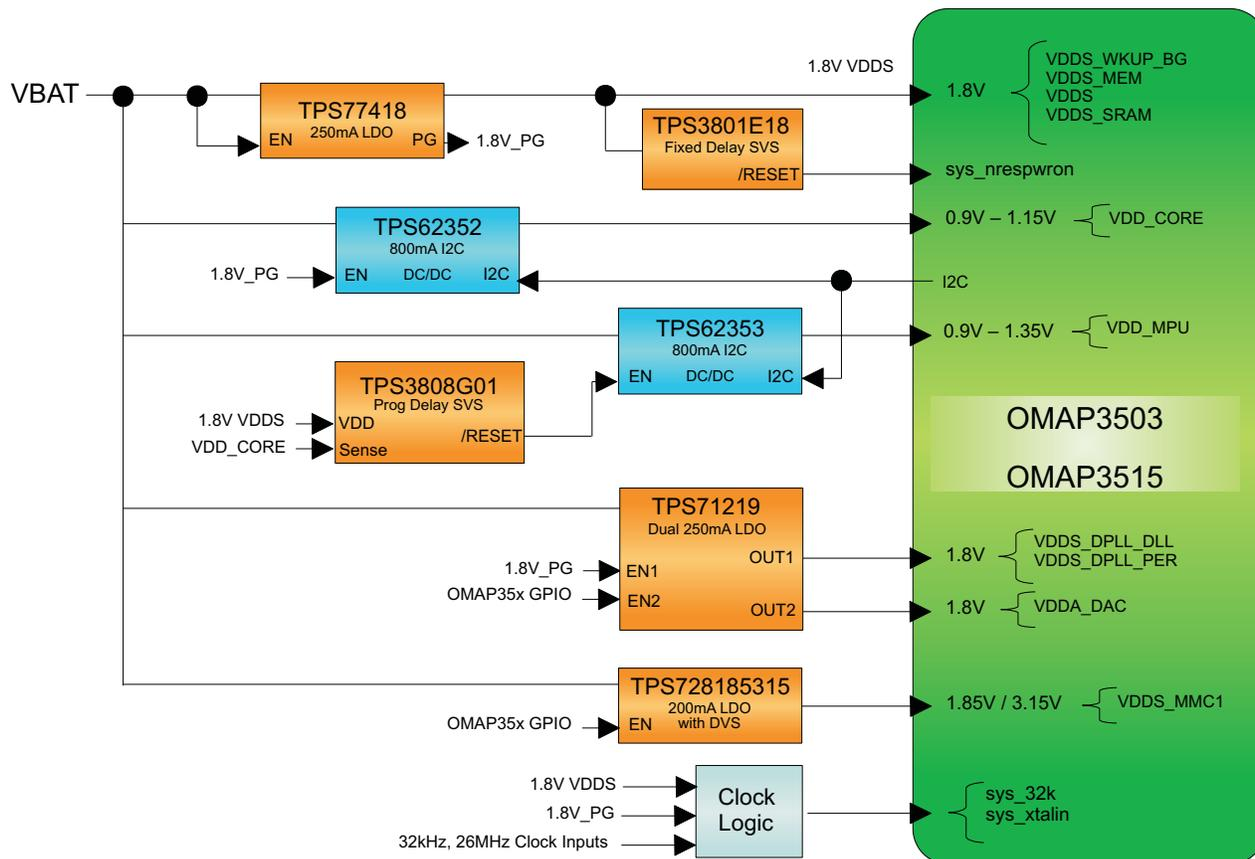

Figure 3. TPS6235x Power Solution Block Diagram
1. VDDS_WKUP_BG, VDDS_MEM, VDDS, and VDDS_SRAM are all 1.8-V rails and are tied to the same power supply. These are ramped first, ensuring a valid level on the I/O domain. In the example block diagram (Figure 3), these rails are powered by the TPS77418 LDO.
Figure 3 is a block diagram of one example of a complete power solution using the TPS6235x devices to power OMAP™3. The rest of the section details each design consideration to tailor the power solution to your needs.
A 1.8-V supply is needed for OMAP™3 I/O. The block diagram in Figure 3 shows that a TPS77418 fixed-voltage LDO was used. When choosing this device, the following considerations were made: